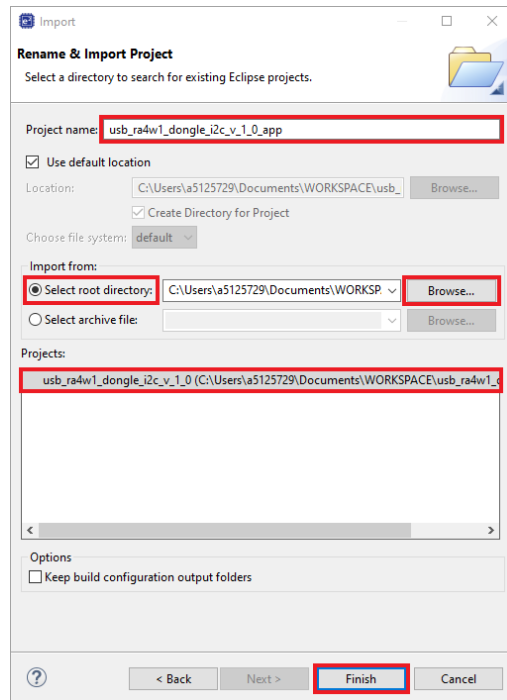

Figure 22. Selection of the Sample Project
- On the next window enter a project name (Figure 22). Renesas recommends using the same name as the original project with a suffix *_app. Select the **Select root directory** option and then click on the **Browse...** button. In File Explorer, navigate to the location of the existing application project, select it, click on the **Select Folder** button, and select the required project in the **Projects:** section. Click on the **Finish** button to complete the import process and close the Import Wizard.